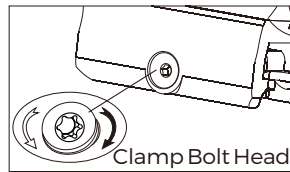

Fig 6-2
1) There is one Torx socket at the end of clamp adjusting bolt on the side of the mount. (See Fig 6-2) Before installation, loosen the bolt to